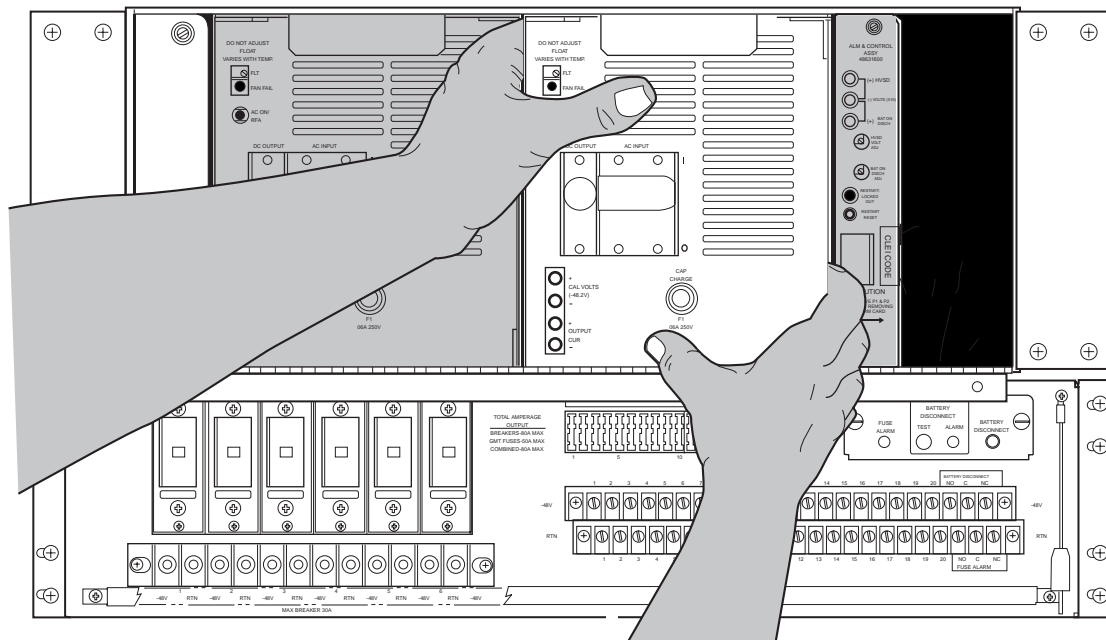

Figure 37. Installing a Rectifier Module
- 4 Insert a rectifier module in the left (No. 2) slot of the modular power supply chassis as shown in Figure 37.